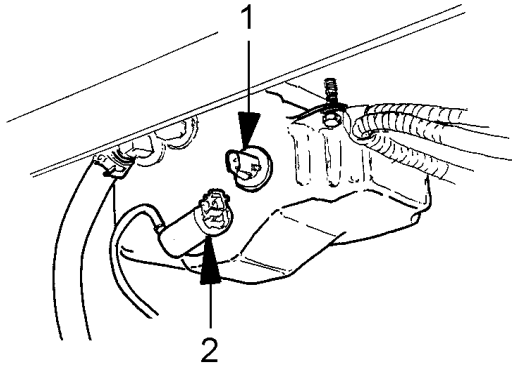

Figure 2 Washer Reservoir Pump and Sensor
2. Disconnect the harness connectors from the windshield washer pump and fluid level sensor (Figure 2).